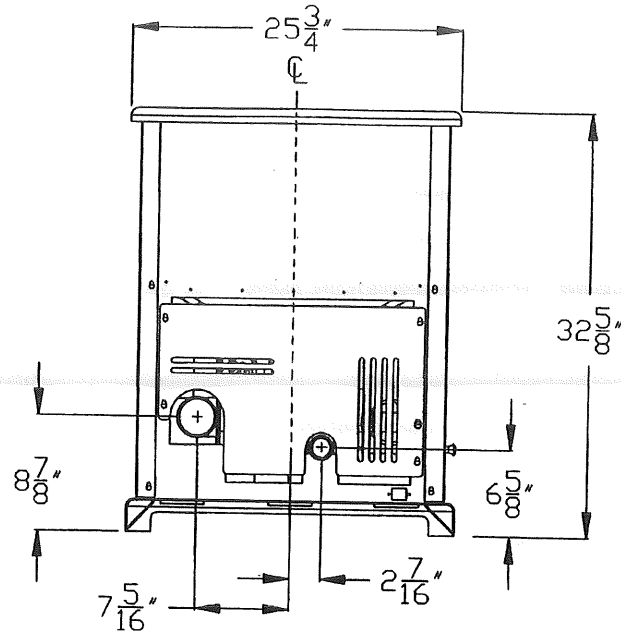
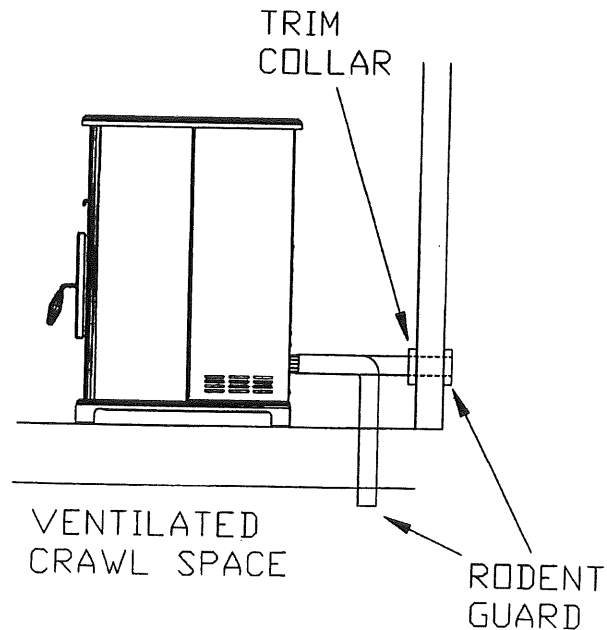

FIGURE 3
FIGURE 4
For a mobile home installation the stove must be connected to an outside source of combustion air. A 2" inside diameter metallic pipe, either flexible or rigid, may be attached to the inlet at the stove's rear (refer to figure 3). A rodent guard (minimum ¼" wire mesh)/wind hood must be used at the terminus (refer to figure 4). All connections must be secured and airtight by either using the appropriately sized hose clamp and/or UL-181-AP foil tape.
2. Locate position of hole in wall; directly behind stove exhaust vent (refer to figure 3).